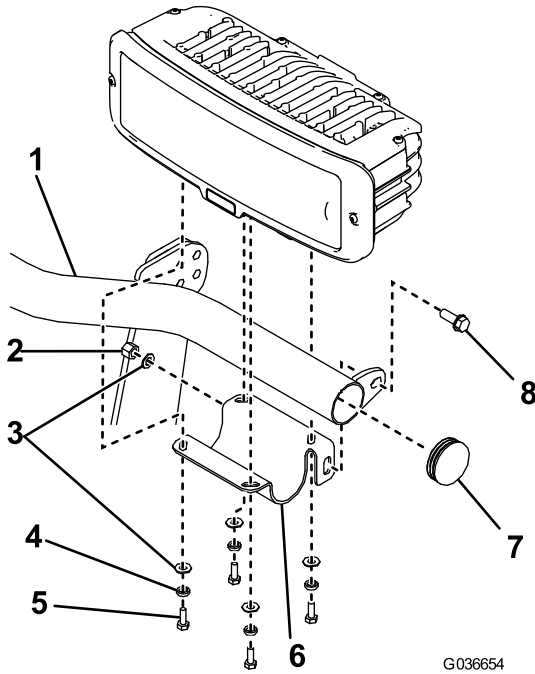

Figure 10
2. Ensure that the end caps are installed on the ends of the light bar (Figure 10).
3. Secure the left headlight-bracket to the light bar using a flange-head bolt (3/8 x 1 inch), a flat washer, and a nylon locknut (Figure 10). Torque the bolts to 31 N·m (23 ft-lb).
4. Secure the left headlight to the headlight bracket using 4 bolts (1/4 inch), split lock-washers, and flat washers (Figure 10).